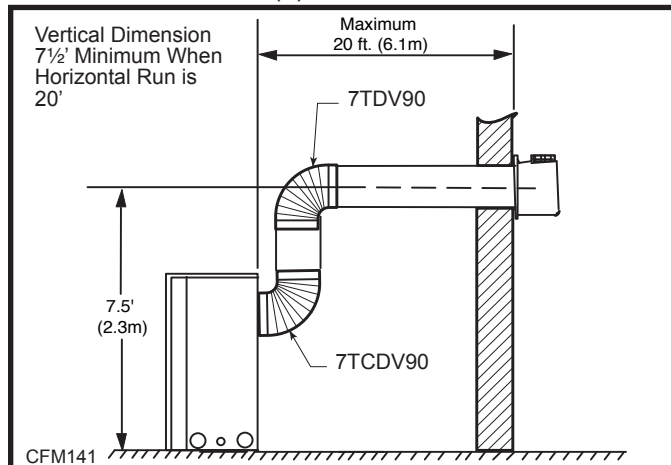

Fig. 26 Maximum number of 90° elbows is three (3).
- The maximum horizontal vent run is 20 ft. (6.1 m) when the vertical vent rise is 7½ ft. (2.3 m). (Fig. 26)
- The maximum number of 90° elbows per side wall installation is three (3).